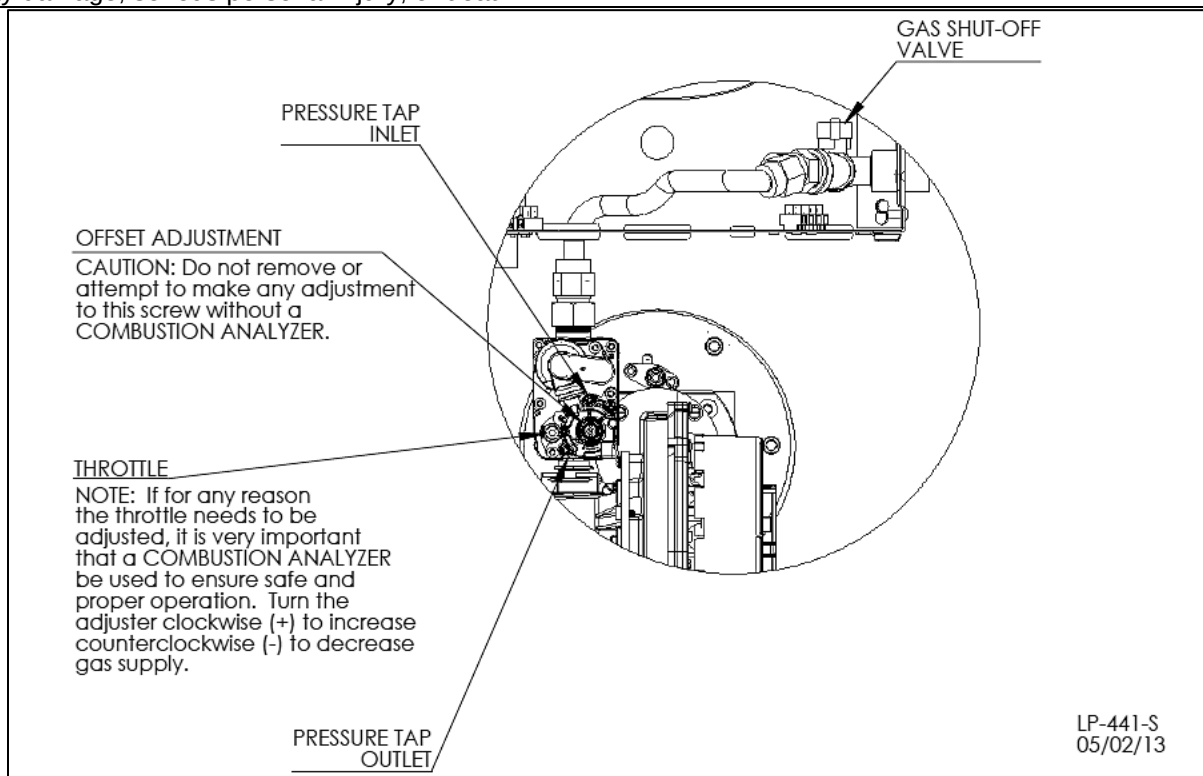

Figure 17 – Gas Valve Detail
4. You can now proceed to adjust the gas by turning the throttle screw located in the front of the gas valve (see Figure 17). To adjust the valve, you will need a 5/32 Hex Key. Turn the throttle **CLOCKWISE** to increase gas supply, and **COUNTER-CLOCKWISE** to decrease gas supply.